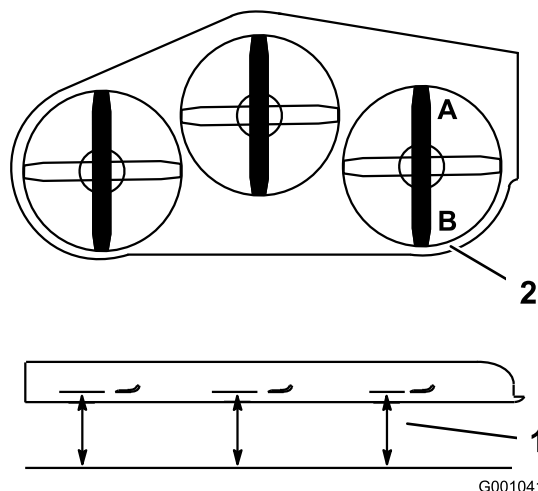

Figure 82
1. Position the **right** blade front-to-rear (Figure 82).
2. Measure the right blade at the **A** location, from a level surface to the cutting edge of the blade tip (Figure 82).
4. Measure the right blade at the **B** location, from a level surface to the cutting edge of the blade tip (Figure 82).
6. The mower blade should be a 1/4 to 3/8 inch (6 to 10 mm) lower at position **A** than at position **B** (Figure 82). If it is not correct, proceed to the following steps.